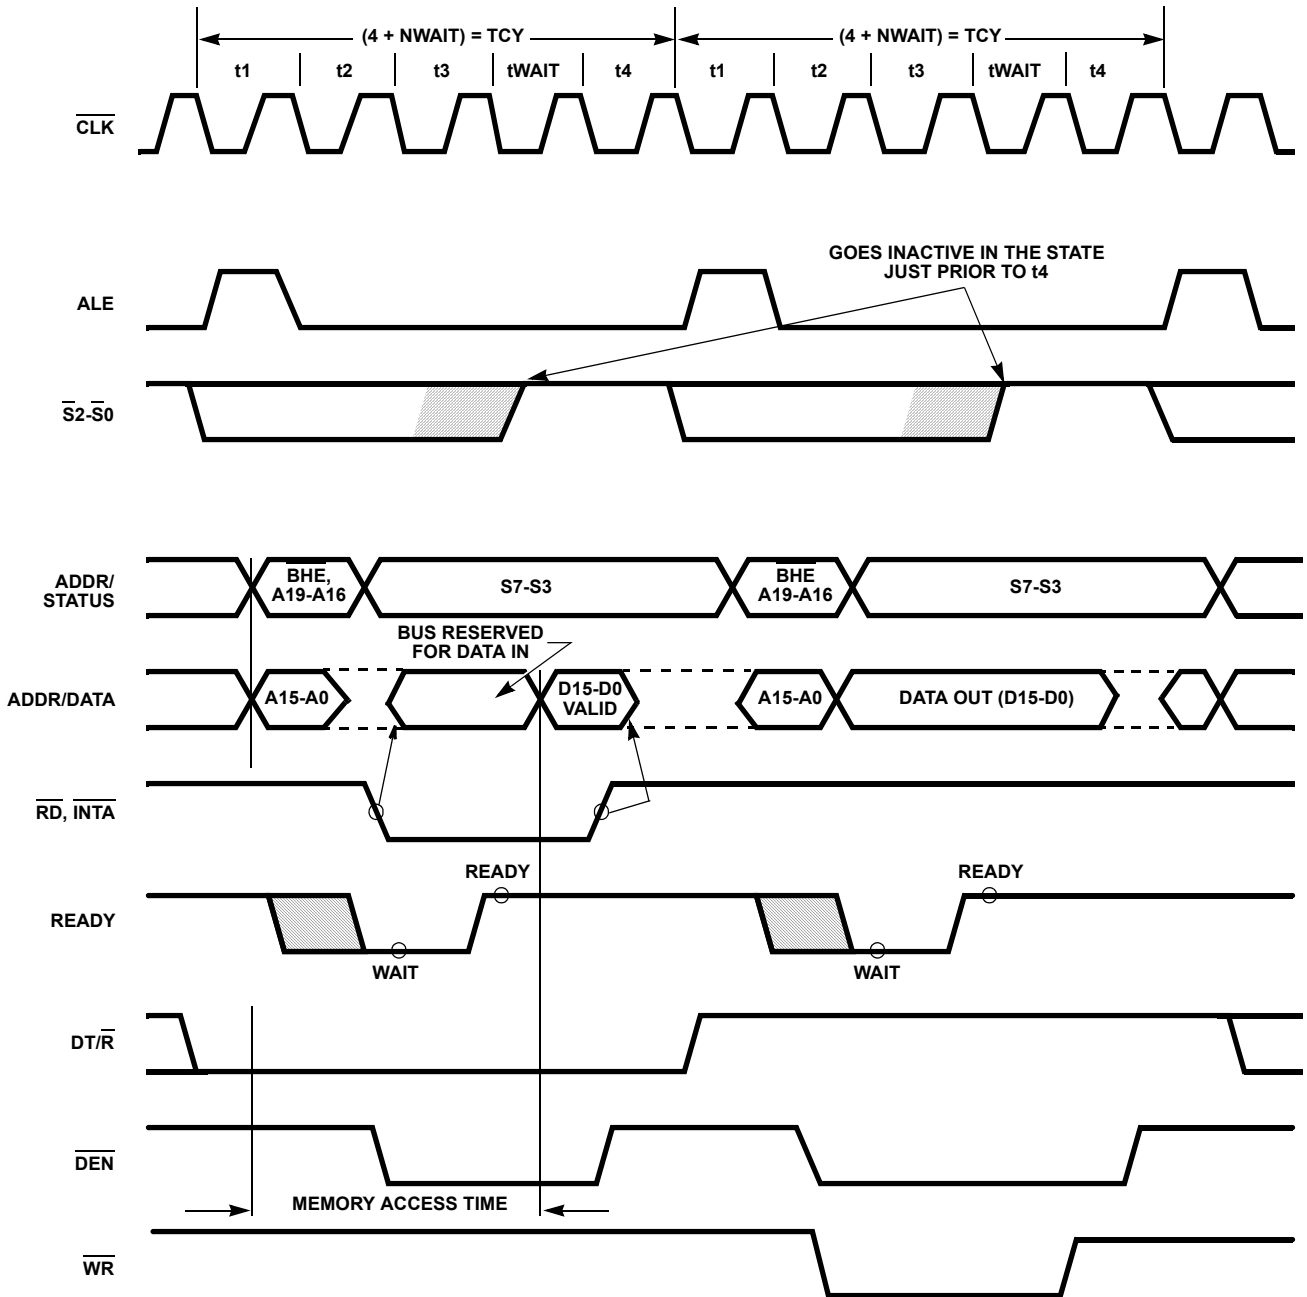

FIGURE 3. BASIC SYSTEM TIMING
Each processor bus cycle consists of at least 4 CLK cycles. These are referred to as t1, t2, t3 and t4 (see Figure 3). The address is emitted from the processor during t1 and data transfer occurs on the bus during t3 and t4. t2 is used primarily for changing the direction of the bus during read operations. In the event that a "NOT READY" indication is given by the addressed device, "Wait" states (tW) are inserted between t3 and t4. Each inserted wait state is the same duration as a CLK cycle. Periods can occur between 80C86 driven bus cycles. These are referred to as "idle" states (TI) or inactive CLK cycles. The processor uses these cycles for internal housekeeping and processing.
Typical system configurations for the processor operating in minimum mode and in maximum mode are shown in Figures 6A and 6B, respectively. In minimum mode, the MN/MX pin is strapped to VCC and the processor emits bus control signals (e.g.  $\overline{RD}$ ,  $\overline{WR}$ , etc.) directly. In maximum mode, the MN/MX pin is strapped to GND and the processor emits coded status information which the 82C88 bus controller uses to generate MULTIBUS compatible bus control signals. Figure 3 shows the signal timing relationships.